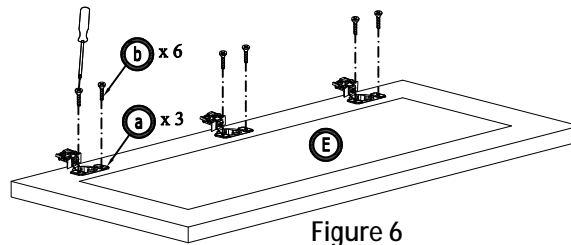

Figure 6
6. Assemble 6 hinges into two doors by screw driver and 12 screw 7/15" (Figure 6)